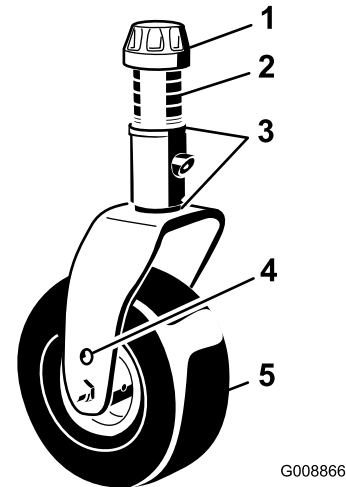

Figure 15
3. Remove the tensioning cap from the spindle shaft (Figure 15) and slide the spindle out of the castor arm. Put the 2 shims onto the spindle shaft as they were originally installed. These shims are required to achieve a level across the entire width of the cutting units. Slide the appropriate number of 13 mm (1/2 inch) spacers (refer to the chart below) onto the spindle shaft to get the desired height-of-cut; then slide the washer onto the shaft.